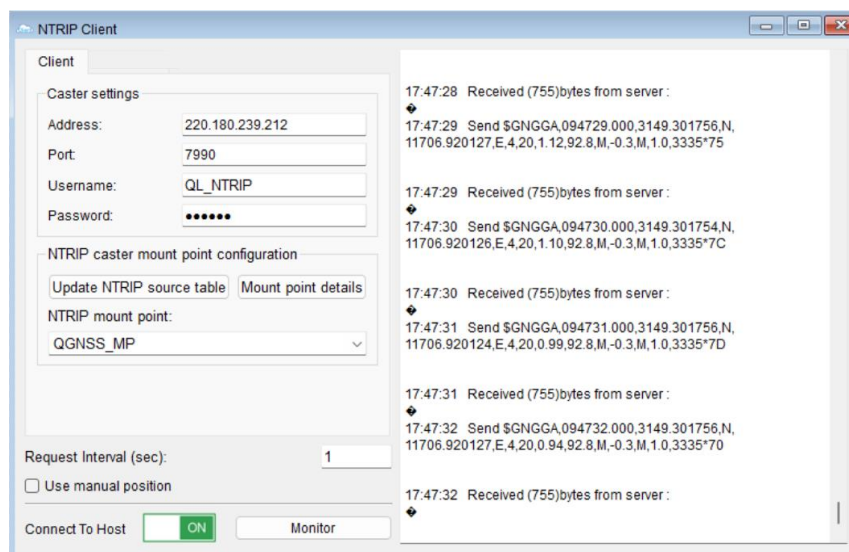

Figure 90: NTRIP Client
Step 1: Enter the Address, Port, Username and Password as shown in Figure 90: NTRIP Client. Contact Quectel Technical Support to get the username and password if necessary. Click **“Update NTRIP source table”** and wait for the server to return mount point information.